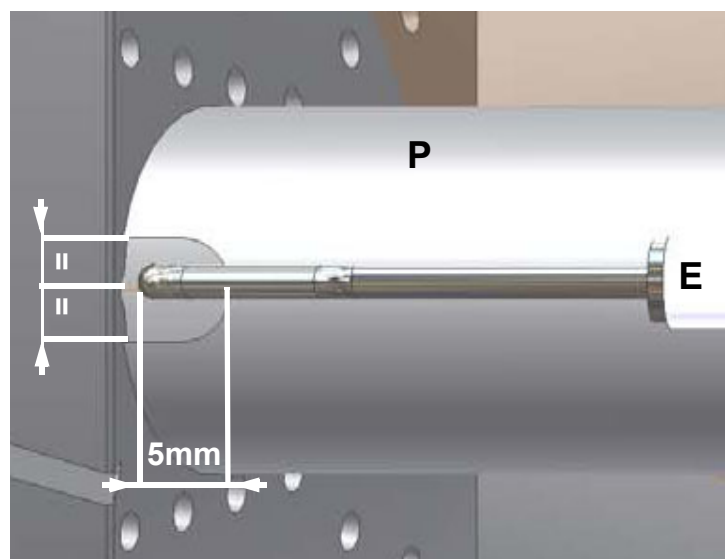

Fig. 31
- 2 disconnect the electrode (E) cable (CE);
- 4 loose screw (B) that fasten the ignition electrode (E) to the burner pilot (P);
- 5 remove the electrode and replace it, referring to the values quoted on Fig. 31;